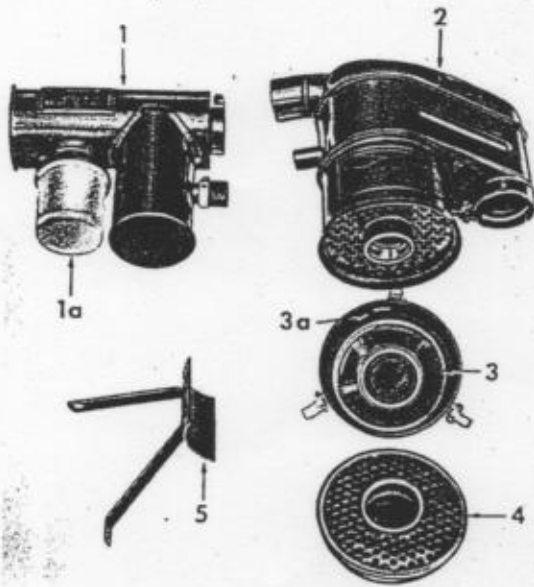

Fig. 12 Components of Oil Bath Air Cleaner with Cyclone Silencer (for subsequent fitting)
b) Bracket for pre-cleaner to be attached to cylinder head and induction manifold, as illustrated in Fig. 12, part 5.